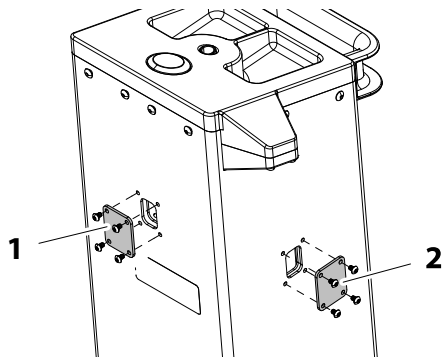

Figure 6-3. Lubrication Access Covers
Only two (2) covers must be removed to lubricate the mast drive screws, the cover on the rear, and the cover on the auxiliary drive port (right) side of the mast. (See Figure 6-3.)
1. Remove the rear access cover. (See Figure 6-3.)